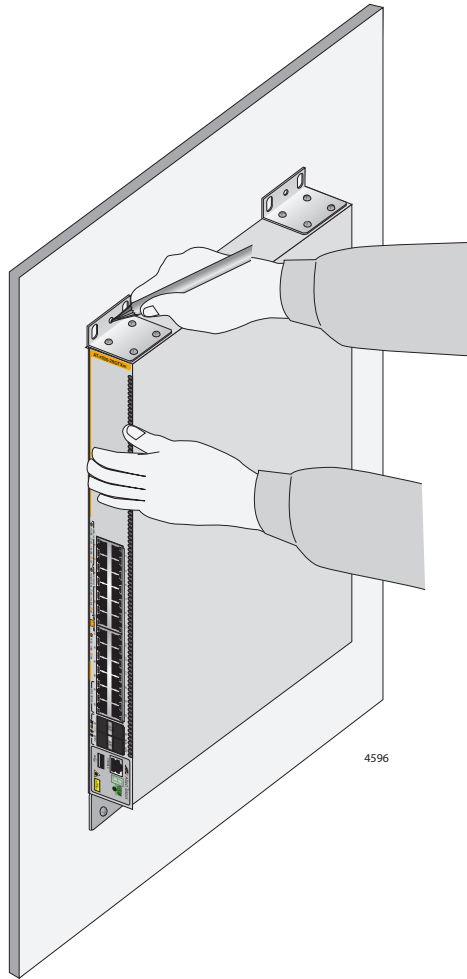

Figure 50. Marking the Locations of the Bracket Holes on a Concrete Wall
3. After attaching the brackets, have another person hold the switch on the concrete wall at the selected location for the device while you use a pencil or pen to mark the wall with the locations of the screw holes in the brackets (one screw per bracket). Refer to Figure 50 on page 128.